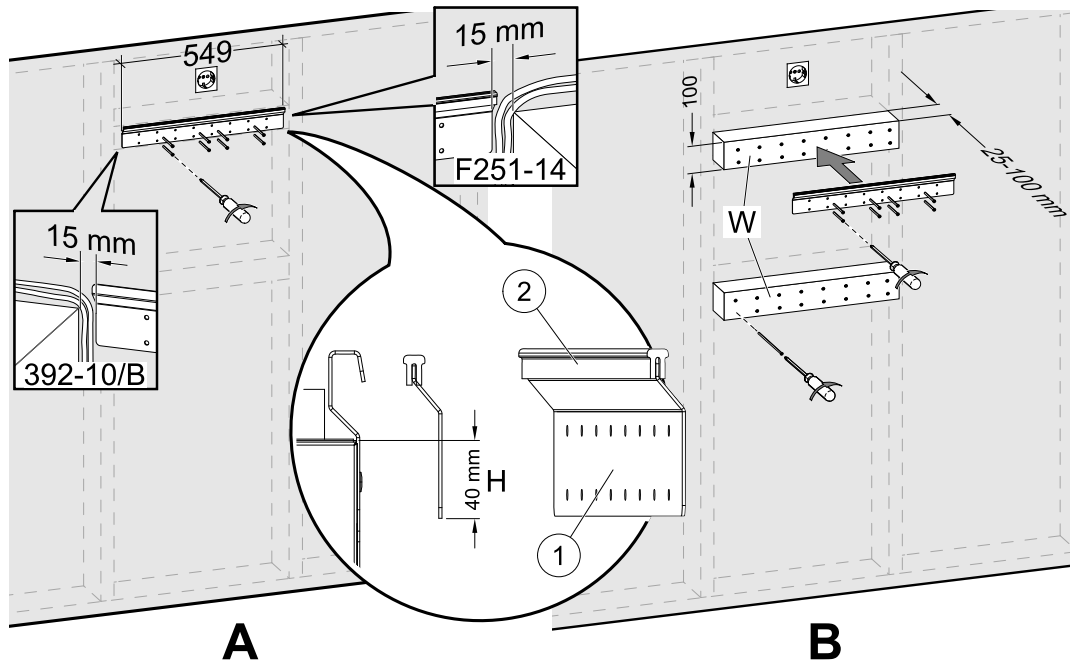

Fig. 7 Installation of mounting bracket without or with wooden blocks
2. Screw the mounting bracket (pos. 1) with the anti-vibration pad (pos. 2) to the wall (figure 7, pos. A). **Screws are not included**, choose them based on your wall type. Use appropriate holes to screw the bracket firmly to the wall. Bottom side of bracket should be 40 mm (H) below top of unit position.
In case the depth of cabinets is much greater than the unit, install wooden blocks (pos. W) to compensate the missing distance (figure 7, pos. B). Then install the mounting bracket on the upper block. Choose thickness of blocks according to your needs.